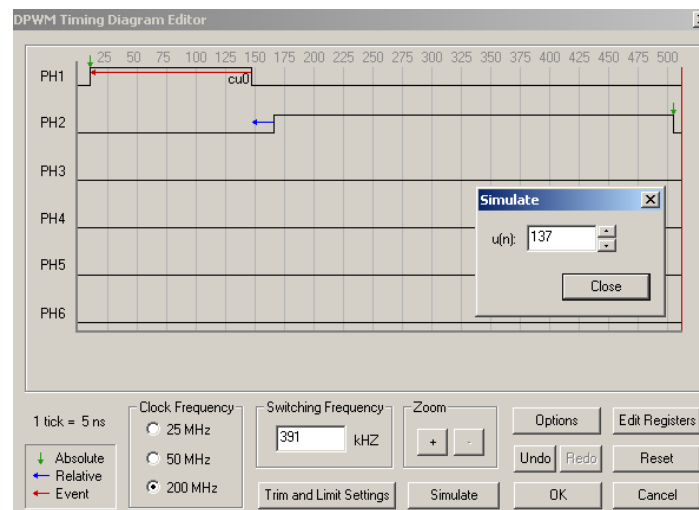

Figure 11. DPWM Timing Diagram Editor—Timing Simulator
- Click the **Simulate** button to display the Simulate Window (see Figure 11). Use the arrows to increase and decrease the value of  $U(n)$ . Notice that Phase 1's edge should modulate with its absolute edge starting at 10 ticks. Phase 2 should also modulate. However, its rising edge starts relative to Phase 1's falling edge.